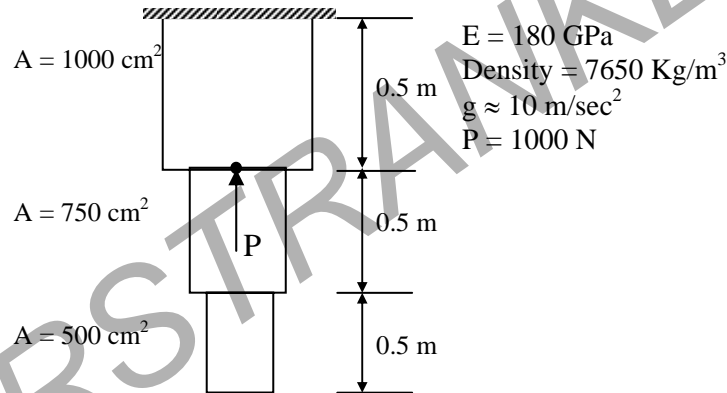

Fig. 1
- b) Determine nodal displacements, element stresses in the bar shown in fig.1. [6+10]